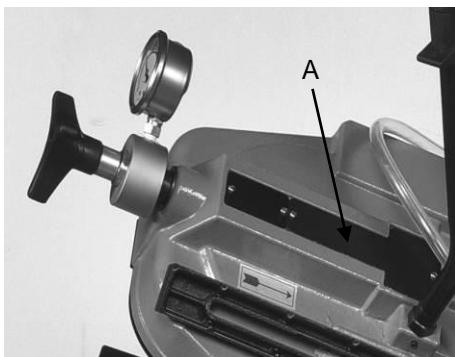

Fig. 22
Refer to Fig 22 / 23.
5. If need to adjust blade track, remove the screws of cover (A, Fig. 22).